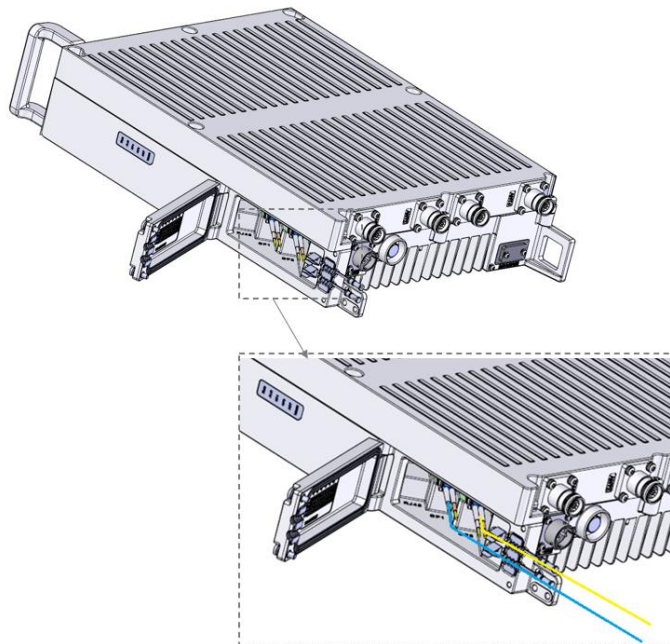

Figure 4-9 Installing the optical module and CPRI cable
Step 2: Insert the optical module into the CPRI port on the ORRU and install the CPRI cables into the optical module as shown in Figure 4-9.